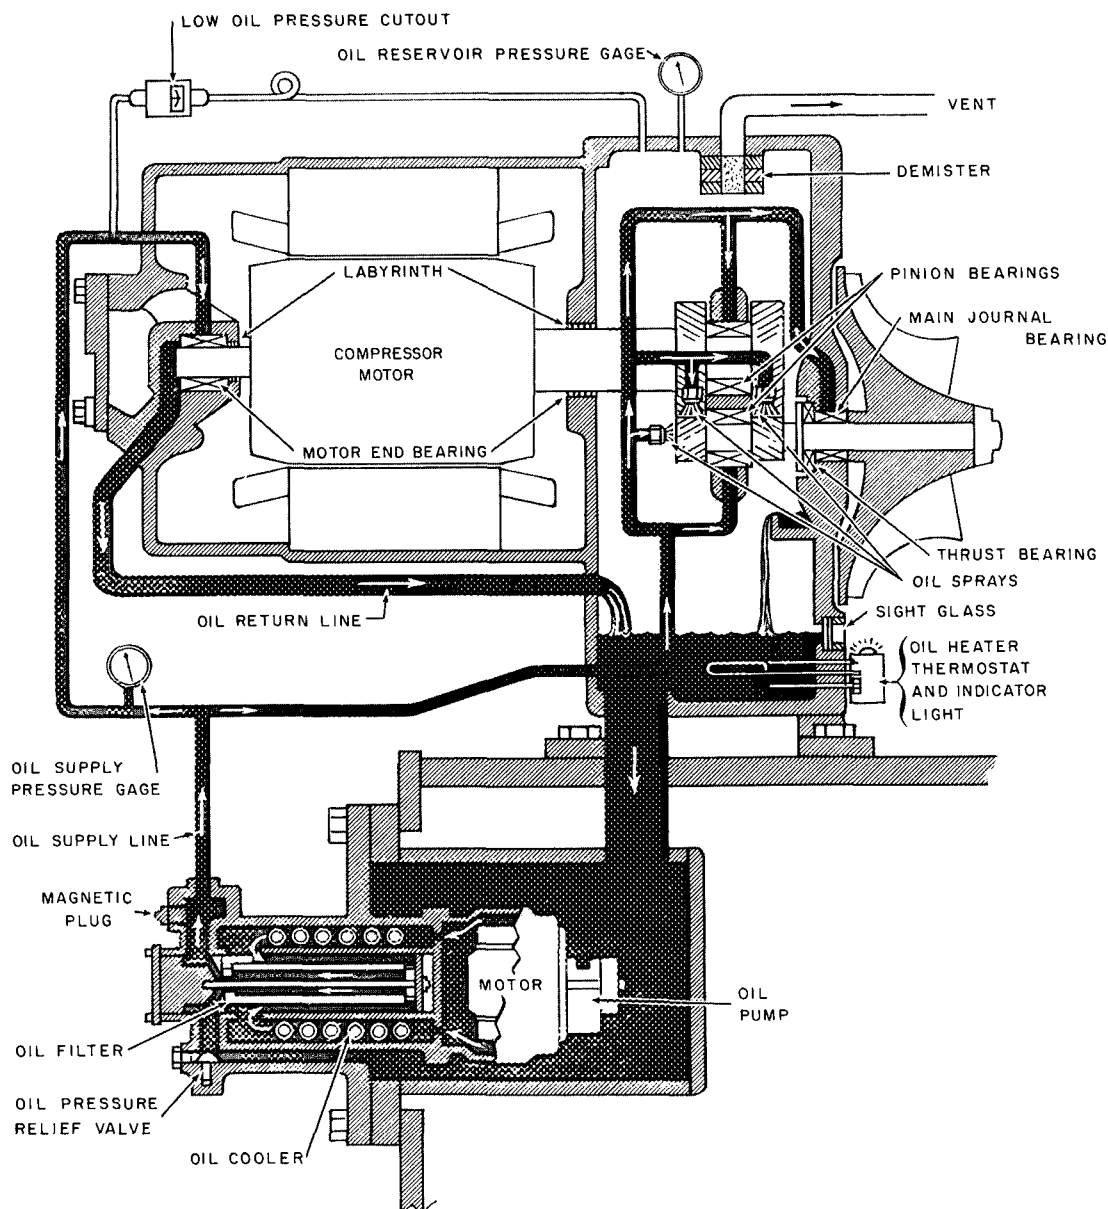

Fig. 2-4 - Lubrication Cycle
**MOTOR END BEARING** - The motor end bearing (Fig. 2-4) is a one-piece bearing with a babbitted sleeve. This assembly also includes labyrinths to prevent oil leakage into the motor housing.
**TRANSMISSION PINION BEARINGS** - The two transmission bearings (Fig. 2-4) consist of two split steel-backed babbitted sleeves. The bearings are pressure lubricated and self-aligning. Dowel pins in the transmission housing maintain the proper location and prevent the rotation of the bearings. The gear bearing has a babbitted shoulder on each end to axially position the motor rotor. The small pinion bearing is free to "float" in order to properly position the pinion to the gear. This equalizes the gear teeth loading.
Figure 2-4 schematically illustrates the oil lubrication cycle for the 19DA compressor. The vane type positive displacement oil pump discharges oil around the motor windings, over the